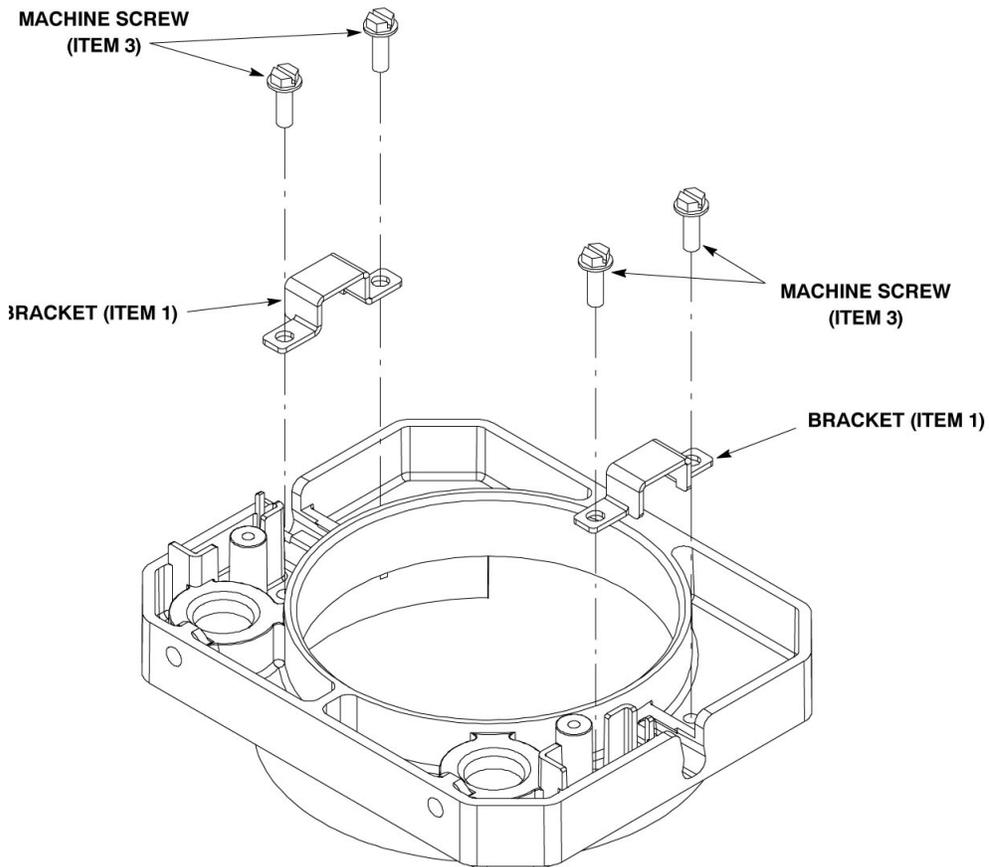

Figure 4.
7. Install two (2) brackets (Item 1) using four (4) screws (Item 3) (See Figure 4).